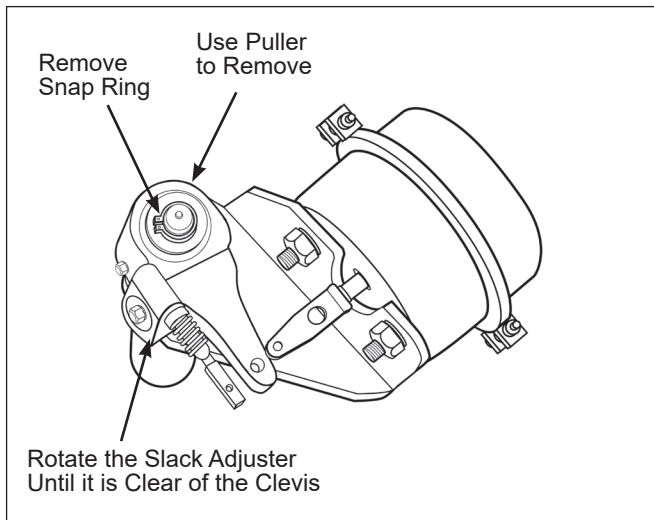

Figure 29 – Slack Adjuster Removal
2. Turn the adjuster nut counterclockwise until the slack adjuster is clear of the air chamber pushrod clevis. Refer to Figure 29.